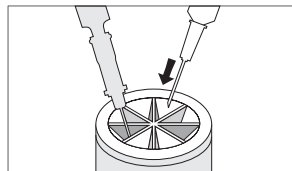

Figure 1
- Using one-handed technique, firmly push needles into disposal cup holes (refer to Figure 1).